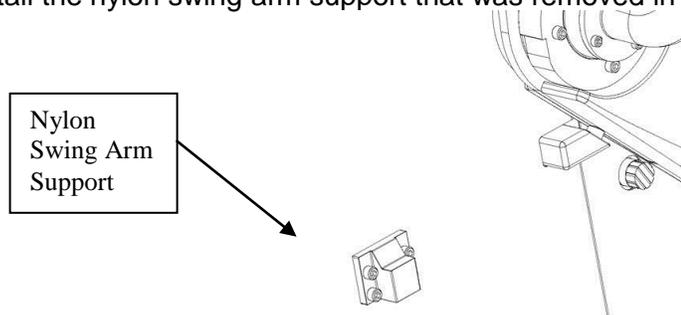

Figure 4: Nylon Swing Arm Support
12. When the swing arm is in its home position, it will rest on a nylon swing arm support. Use an Allen wrench and remove the four cap screws and the nylon swing arm support. Figure 4